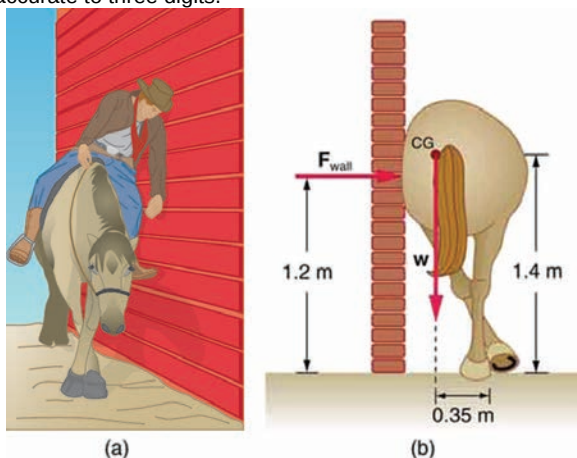

Figure 9.32
- Suppose a horse leans against a wall as in **Figure 9.32**. Calculate the force exerted on the wall assuming that force is horizontal while using the data in the schematic representation of the situation. Note that the force exerted on the wall is equal in magnitude and opposite in direction to the force exerted on the horse, keeping it in equilibrium. The total mass of the horse and rider is 500 kg. Take the data to be accurate to three digits.
- (a) Calculate the magnitude and direction of the force on each foot of the horse in **Figure 9.32** (two are on the ground), assuming the center of mass of the horse is midway between the feet. The total mass of the horse and rider is 500 kg. (b) What is the minimum coefficient of friction between the hooves and ground? Note that the force exerted by the wall is horizontal.